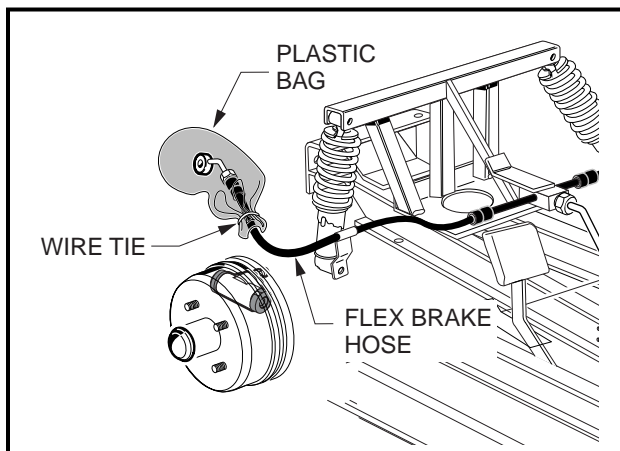

Figure 6-14 Front Brake Hose With Plastic Bag
3. To ensure that no dirt or debris enters the hydraulic braking system, place the hose fitting in a plastic bag and secure to the vehicle frame as shown (**Figure 6-14, Page 6-17**).